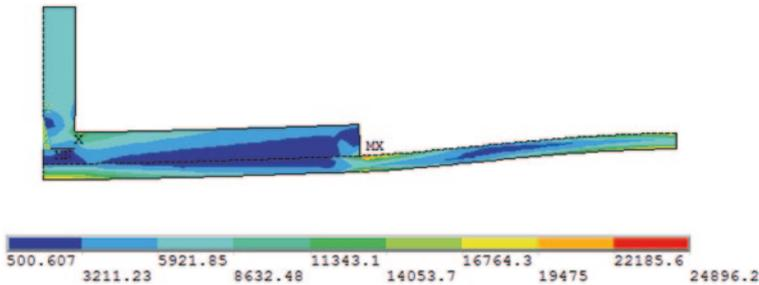

Fig. 8.28 Equivalent stress contours
- Figure 8.28 shows the corresponding contour plot